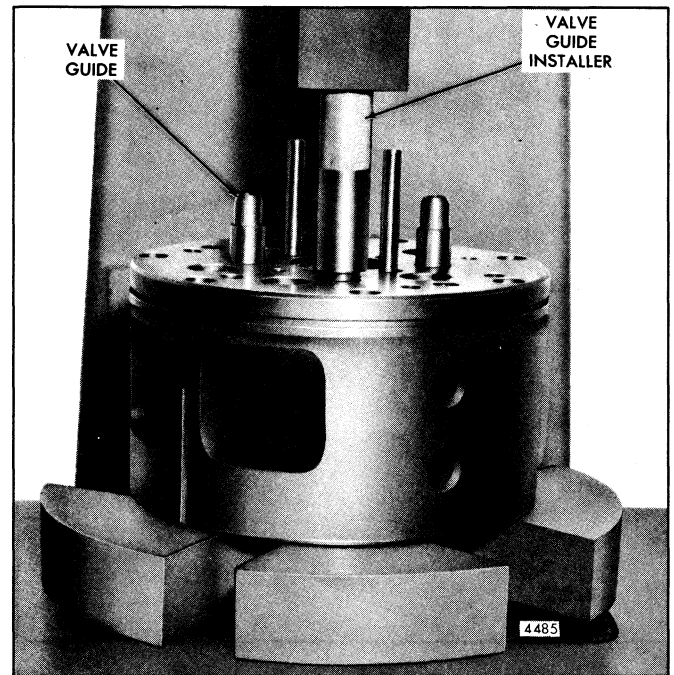

Fig. 6 - Installing Exhaust Valve Guide
- 2. Position the valve guide squarely in the bore in the cylinder head and tap the installing tool gently to start the guide in place. Then, press the guide in until the tool contacts the cylinder head (Fig. 6). This will position the valve guide to the proper height of 1 • 140"—1.180". *On 125 hp-per-cylinder engine, the valve guides are smaller in diameter than those on the current 100 and 112 hp-per-cylinder engines.*